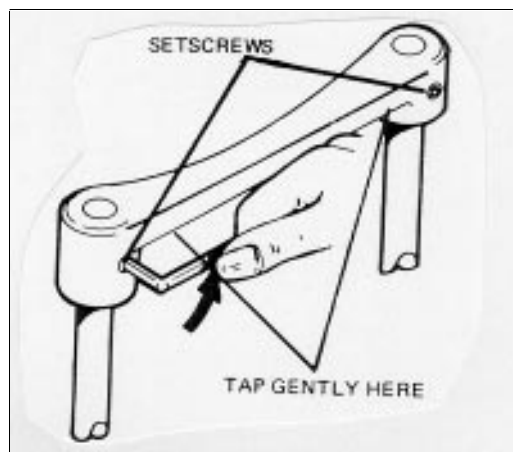

Figure 5-12. Removal of Upper Slide Bar
5. Replacement of Upper Slide Bar (Figure 5-12)**a. Removal**